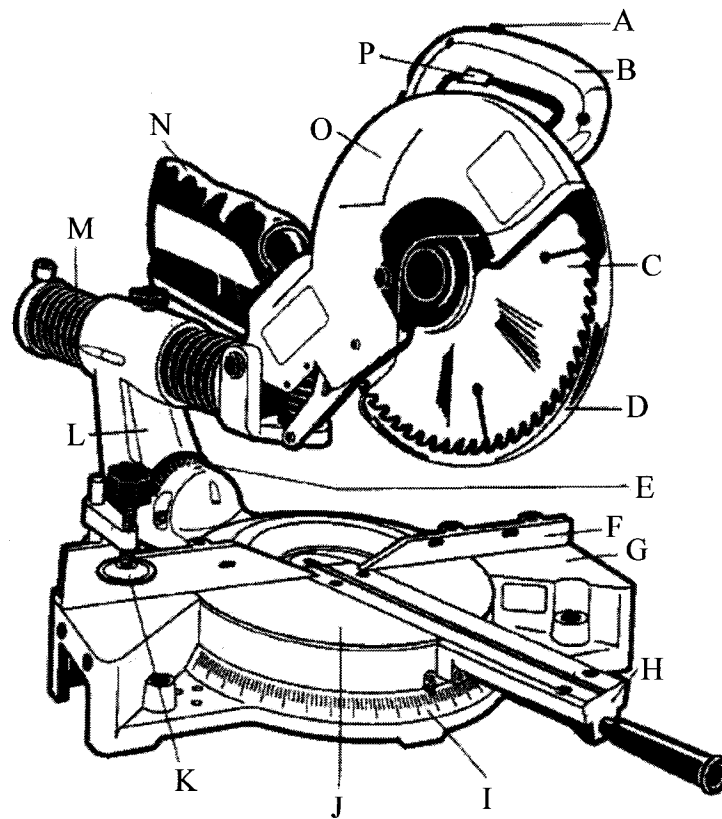

Figure 3
4. Figure 3 below shows a portable power tool commonly used in the carpentry workshop and on the construction site.